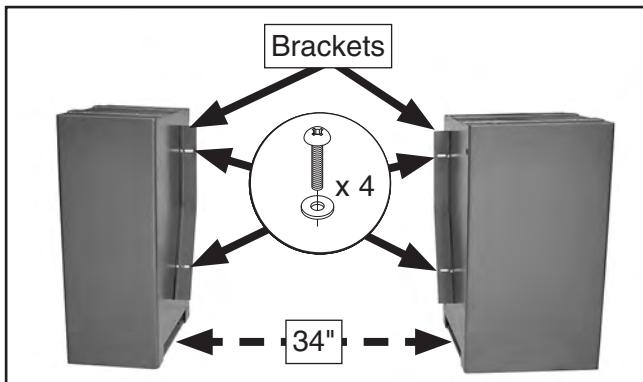

Figure 13. Brackets attached (rear view).
1. Position left and right cabinets approximately 34" apart in prepared location (see **Figure 13**).
2. Attach front panel brackets to cabinets with (4) M6-1 x 10 Phillips head screws and (4) 6mm flat washers (see **Figure 13**).